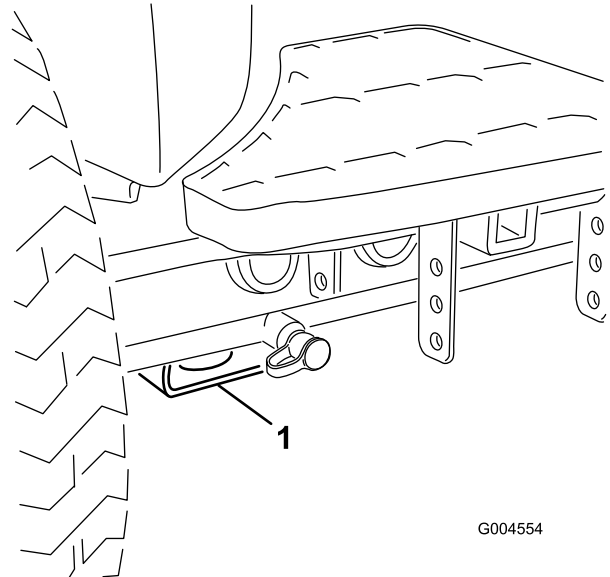

Figure 38
- Front—rectangular pad, under the axle tube, inside each front tire (Figure 38).